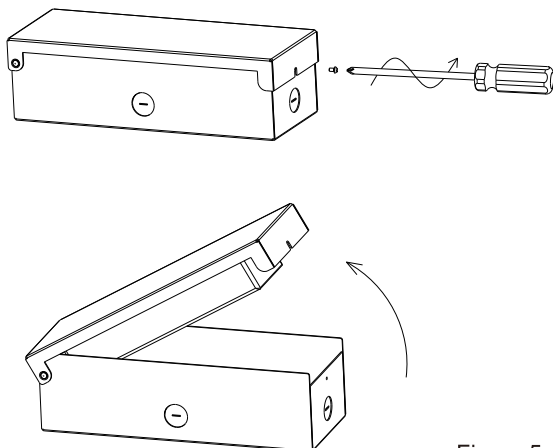

Figure 5
5. Open the driver box by loosening Philips screw on the front of the box. (See Figure 5)